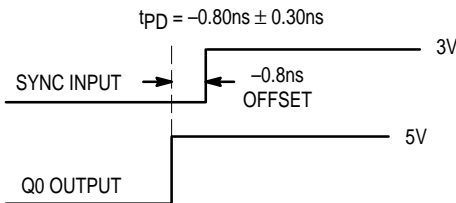

Figure 2. Depiction of the Fixed SYNC to Q0 Offset (t_{PD}) Which Is Present When a 1MΩ Resistor Is Tied to V_{CC} or Ground
- 2. A 1MΩ resistor tied to either Analog V_{CC} or Analog GND, as shown in Figure 2, is required to ensure no jitter is present on the MC88916 outputs. This technique causes a phase offset between the SYNC input and the Q0 output, measured at the pins. The t_{PD} spec describes how this offset varies with process, temperature, and voltage. The specs were arrived at by measuring the phase relationship for the 14 lots described in note 1 while the part was in phase-locked operation. The actual measurements were made with a 10MHz SYNC input (1.0ns edge rate from 0.8V to 2.0V). The phase measurements were made at 1.5V. See Figure 2 for a graphical description.